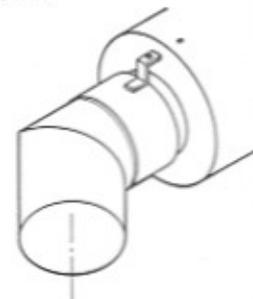
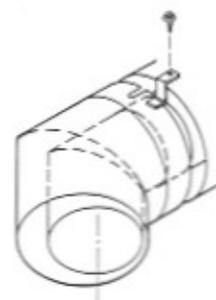

Figure 11
Figure 12
**Step 3.** Attach the inner 45° elbow over the inner appliance collar until the flange hole aligns with the hole in the outer collar (Figure 11). Insert a #8-15 x 1/2" screw (provided) through hole in outer collar and into flange on inner collar (Figure 12). Do not tighten at this time.